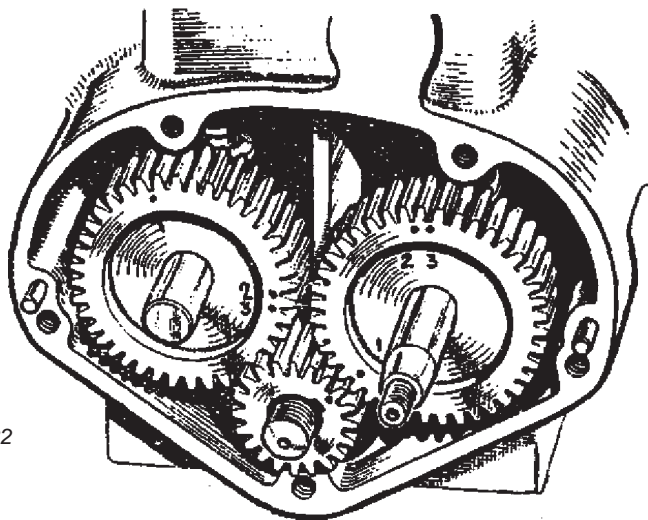

FIG 22
1954-55. High-lift cams (HL), Cams marked 1,2 and 3 (see Fig. 22). For 350 cc models use No. 3 for inlet; No. 2 for exhaust. For 500 cc models use No. 2 for both valves. When fitting camshafts that have neither a slot nor keyway for the long shaft, use a No. 1 marking for the exhaust cam.